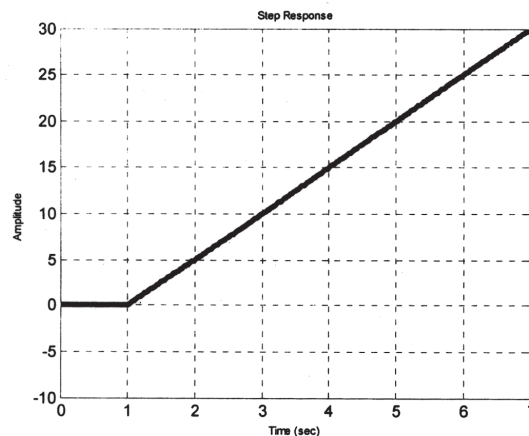

Fig 1
Q1) From the step response shown in Fig 1, identify the model of the system. [10]
- Q5)** Using the ZN step response method determine the gains of the PID control for the step response in Fig 1. **[10]**